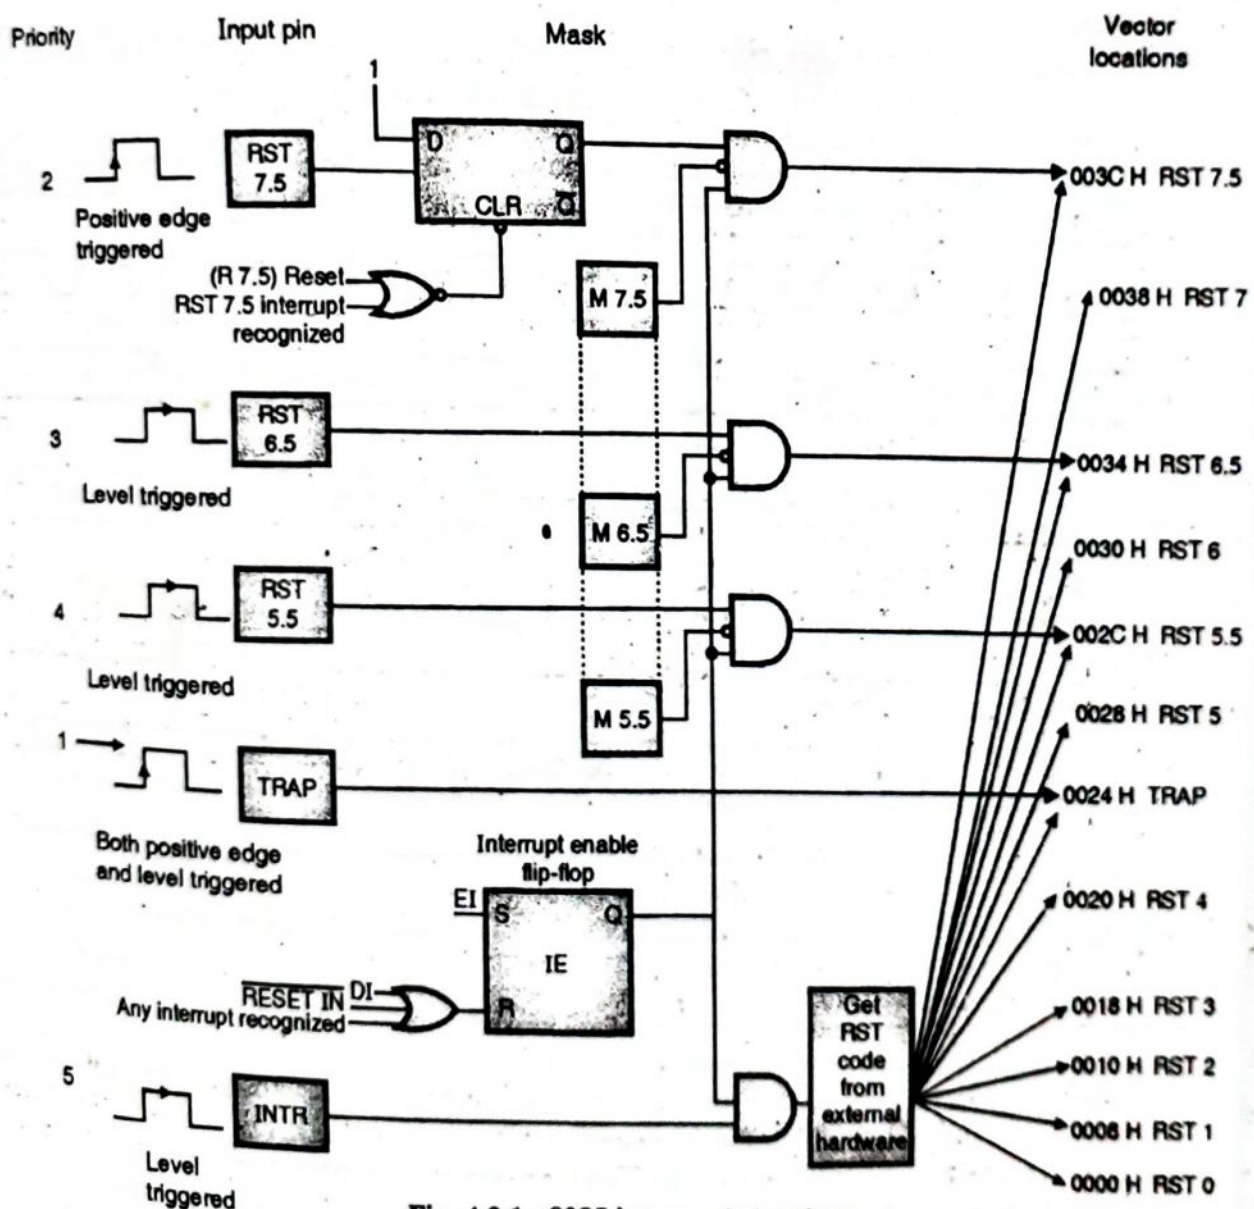

Fig. 4.3.1 : 8085 interrupt structure
- Fig. 4.3.1 shows the interrupt structure.